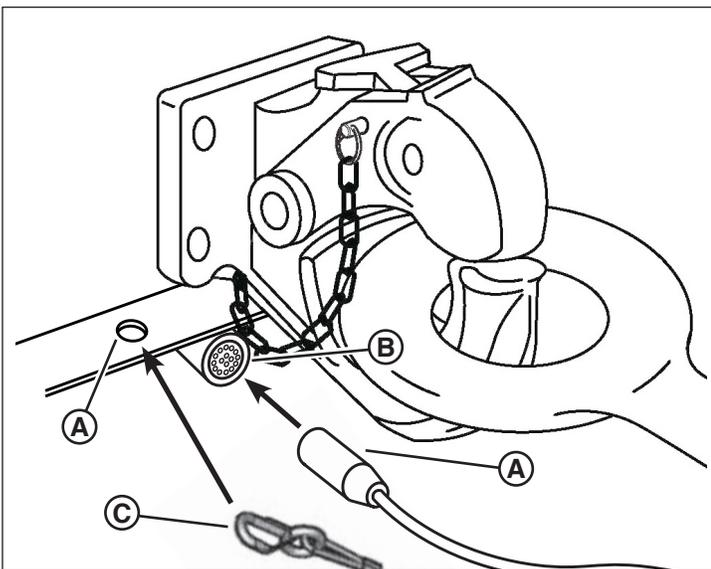

Figure 8
7. Connect the trailer lighting connector (**A**, Figure 8) to the tow vehicle's connector (**B**). Make sure the trailer lighting harness has adequate length to prevent disconnection when turning, but not so much length that the harness will contact the road surface. Check the stop, turn signal, tail, side marker and license plate lamps for proper operation.
8. Connect the break-away brake switch cable (**C**, Figure 8) to the tow vehicle (**D**). See 'Break-Away Brake System' for detailed information on the break-away brake system.
NOTE: Some break-away brake switch cables feature a carabiner that hooks to the safety chain pocket. Refer to Figure 8.